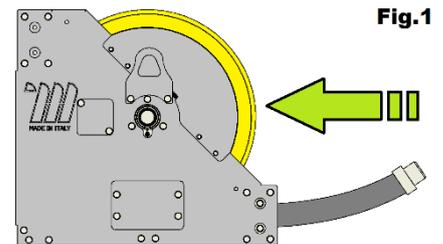

Fig.1
- During hose rewinding you must help the hose movement with the hand (**fig.1**), to prevent the hose to being scratched or hit that could compromise its integrity and to avoid damage to person or things.
- **ATTENTION:** During the rewinding of the hose it is necessary to accompany it with the hand (**fig.1**), in order not to damage the traction spring and to allow the roller to rewind the hose slowly and safely.